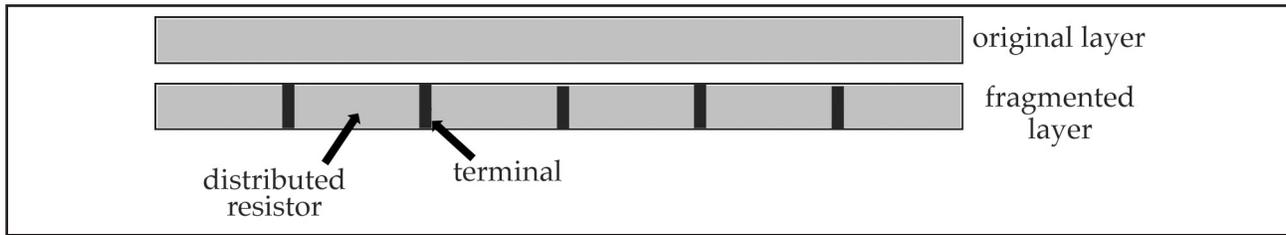

Figure 3. Long resistor fragmentation
- **HIPEX-R** enables you to specify the maximum length of a fragmented resistor body. If a resistor body is greater than this value, it will be cut into smaller pieces of length less than or equal to this value. (see Figure 3)